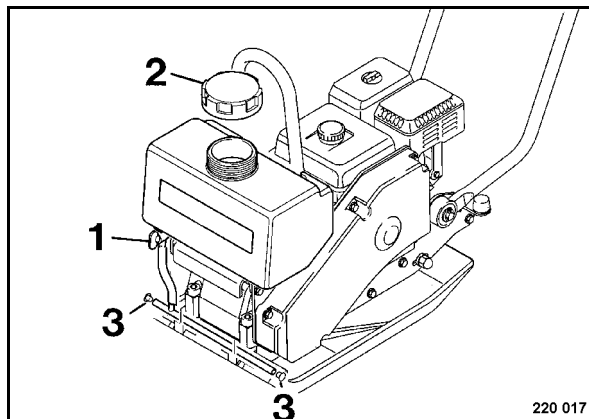

Fig. 60
- Remove the cover (2) (Fig. 60) from the water tank and the lateral rubber cap (3) from the sprinkler tube.
- Open the shut-off cock (1).